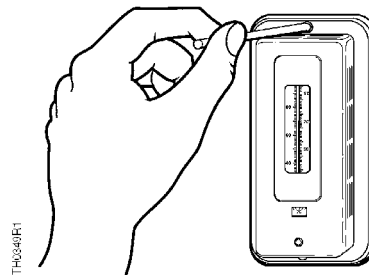

Figure 2. Removing the Thermostat Cover.
2. Remove thermostat cover using adjustment key (Part No. 356-055). See Figure 2.